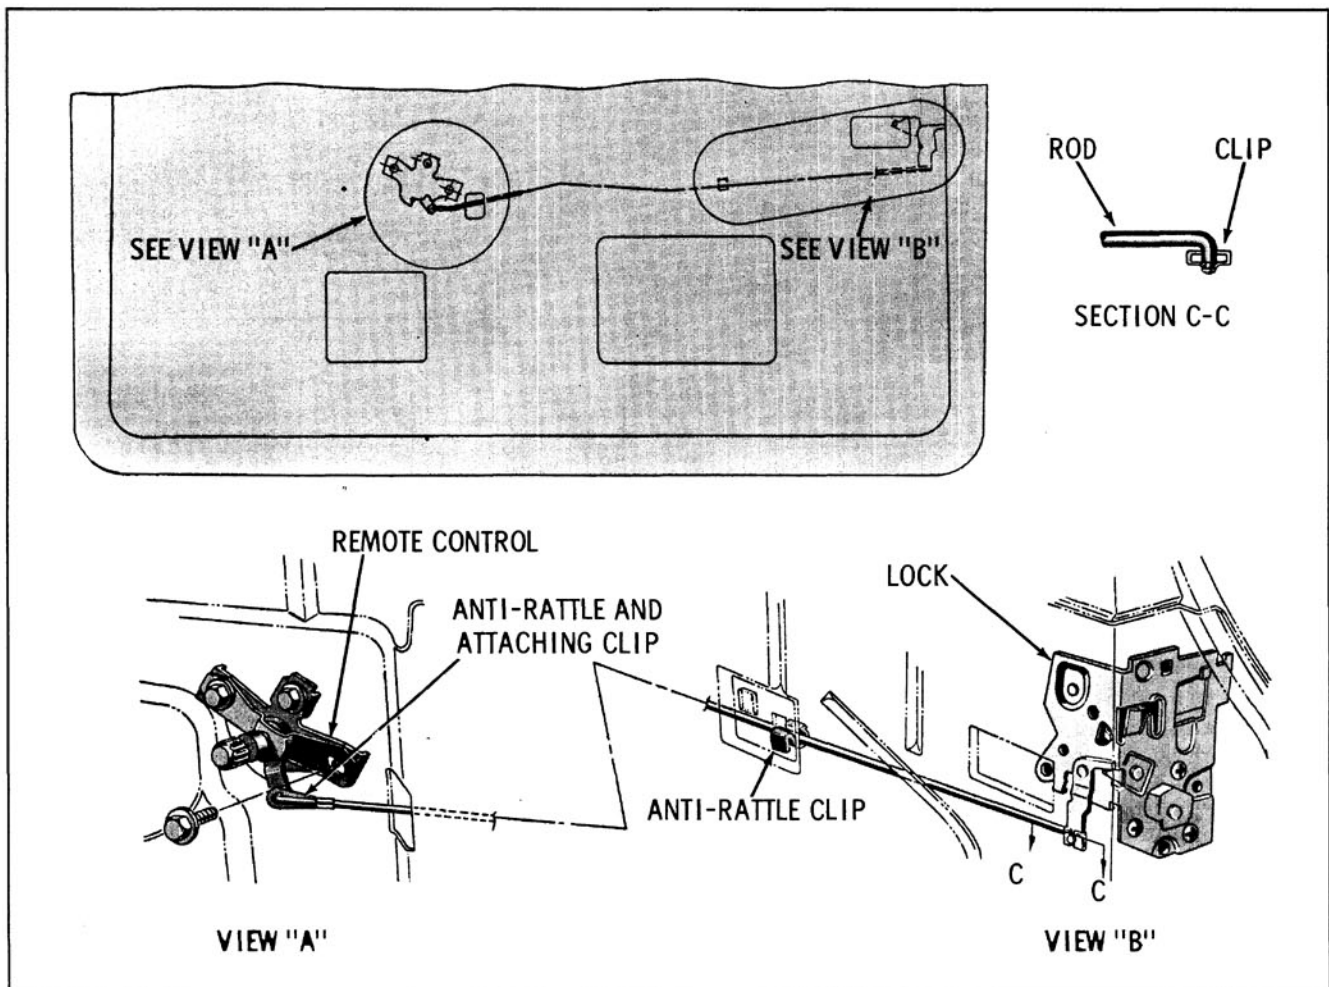

Fig. 16-64 Remote Control Attachment
2. Remove remote control attaching bolts and remove remote control from connecting rod. (Fig. 16-64)
4. Disengage remote control connecting rod from lock and remove rod from door. (Fig. 16-64)